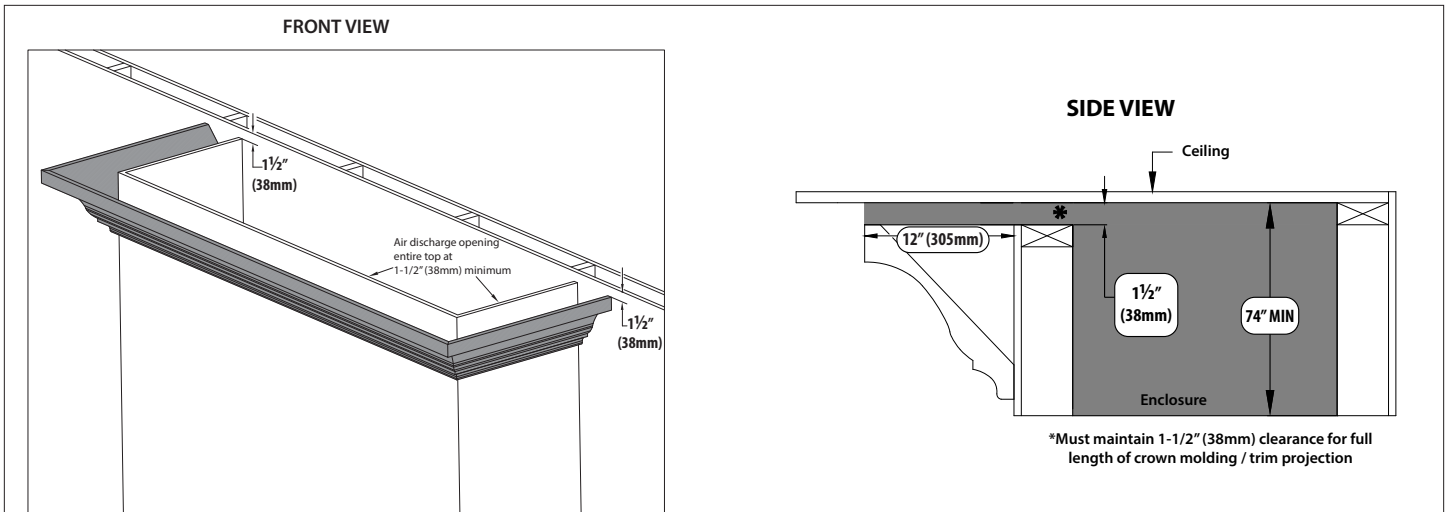

Figure 3.20, Top Vented Cavity Crown Molding Installation
- Figure 3.20 on the following page shows the installation of crown molding or similar trim work that goes up to the edge of the air discharge opening. 12" (305mm) is the maximum length of the molding or trim projection and you must maintain 1-1/2" (38mm) clearance for the full length of crown molding/trim projection. This molding or trim cannot decrease the minimum opening requirement.